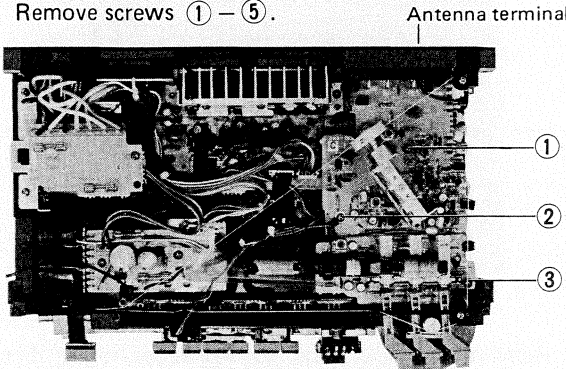

Fig. 14
1. Removal of tuner P.C. board (Figs 14 and 15)